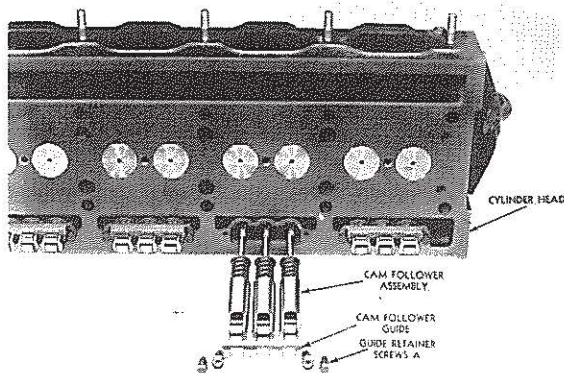

FIG. 21
followers can best be removed from the bottom of the head as shown in Fig. 21.
- c. Lay the cylinder head edgewise on the bench, as shown in Fig. 21, and remove the 2 screws "A" that attach the cam follower guides to cylinder head and remove guides.